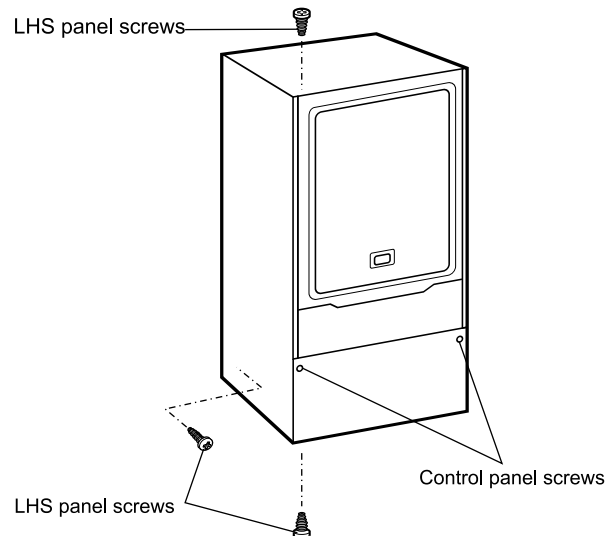

Fig. 3
4.3 CONVERT THE BOILER FOR FITTING THE COMBIMAX - Figs. 3, 4, 5 and 6
1. Lower the front cover and loosen the two fixing screws securing the control panel as shown in Fig. 3.
2. Remove the left hand side panel of the boiler by removing the top and two bottom screws as shown in Fig. 3.